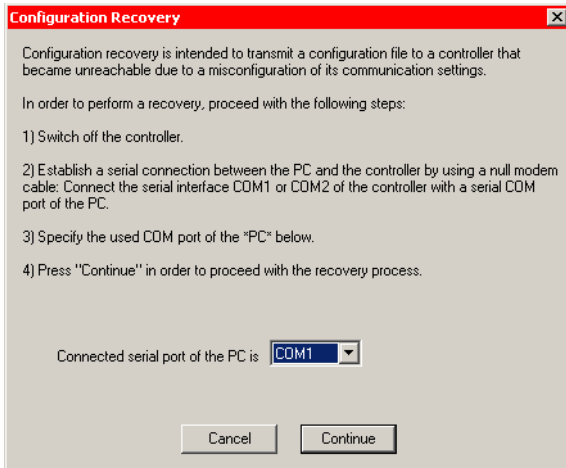

Figure 10.2 - Recover... pop-up window
1. In the Config software, go to PSD-Controller. Press the **"Recover..."** button located in the lower left corner of the window (see Figure 6.6). A new window will pop up (see Figure 10.2).
2. Follow the steps in the screen shown in Figure 10.2.